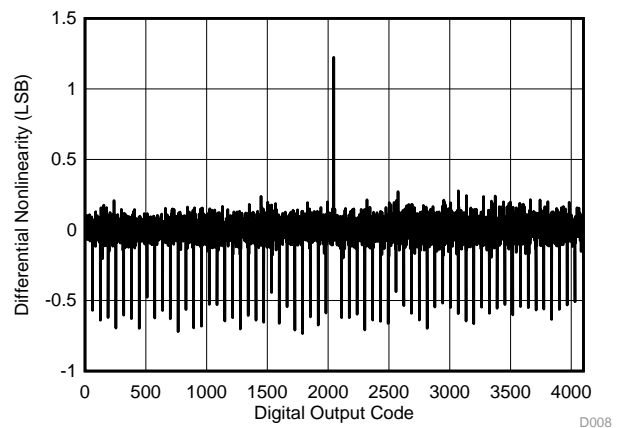

Figure 5-7. SoC ADC, Differential Nonlinearity vs Digital Output Code
(1) Using IEEE Std 1241™-2010 for terminology and test methods.
(2) Input signal scaled down internally before conversion, as if voltage range was 0 to 4.3 V.
(3) No missing codes. Positive DNL typically varies from +0.3 to +3.5, depending on device (see Figure 5-7).